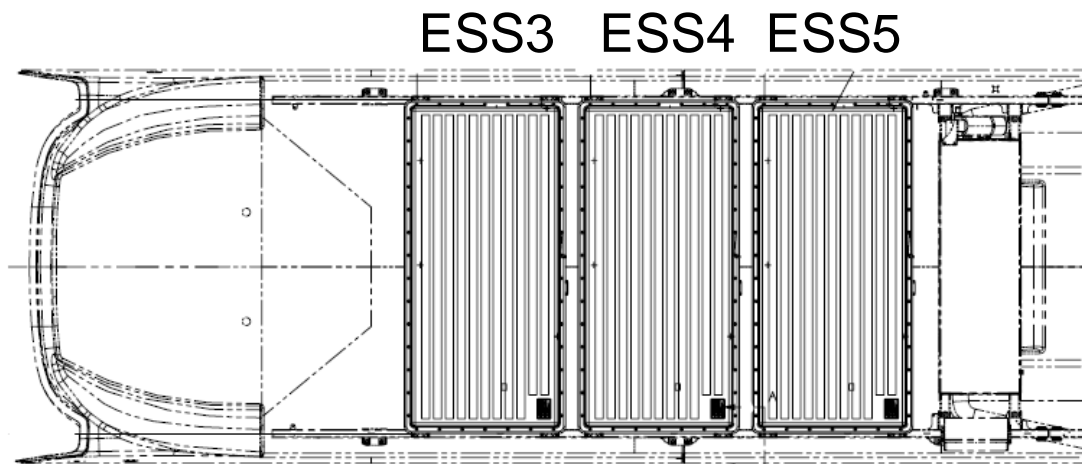

Figure 2: Upper ESS Layout
- Gain access to the rooftop ESS enclosures. Ensure that appropriate fall protection PPE is used and available for the duration of the work. Reference Figure 2 below for the upper ESS layout.